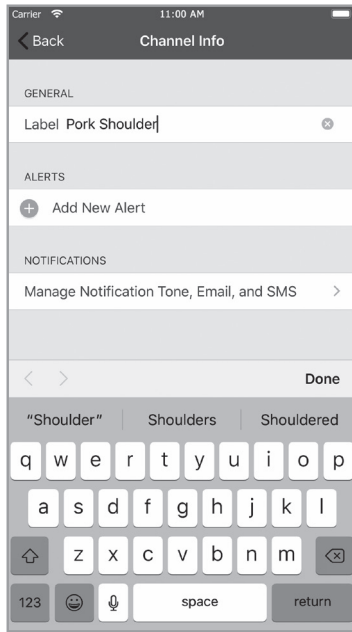

FIG 29
- The names of the two probe ports can be set according to what you’re cooking. Tapping on the probe port in the grey banner will allow you to change its name (**FIG 29**). This name will also be used in the various charts throughout the app.
- An alert – in the form of an app alert, an SMS text message, or an email – can be set to let you know when one of the meat probes are at a certain temp. Simply tap on the temperature shown for the probe in the gray banner, tapping “Add New Alert,” then “Set-up Alert” and set up your parameters (**FIG 29, 30**).